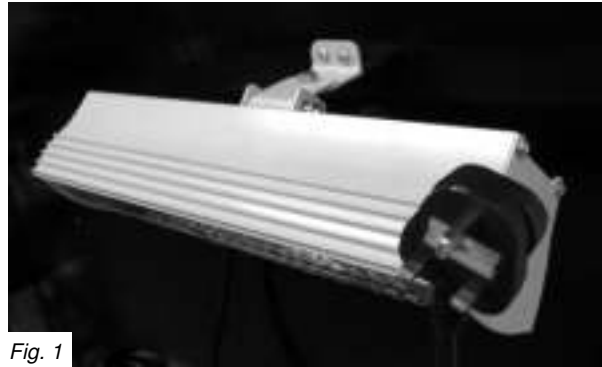

Fig. 1
1. Ensure the heater and lamp are cool and the power supply is disconnected by removing the plug from the socket outlet as shown in Fig. 1.